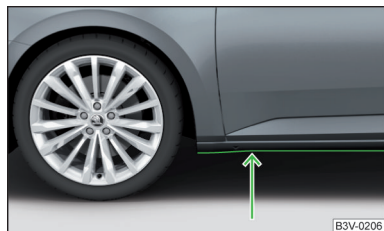

Fig. 162
- Therefore determine the depth of the water before driving through bodies of water. The water level must not reach above the lower edge of the lower brace » Fig. 162.